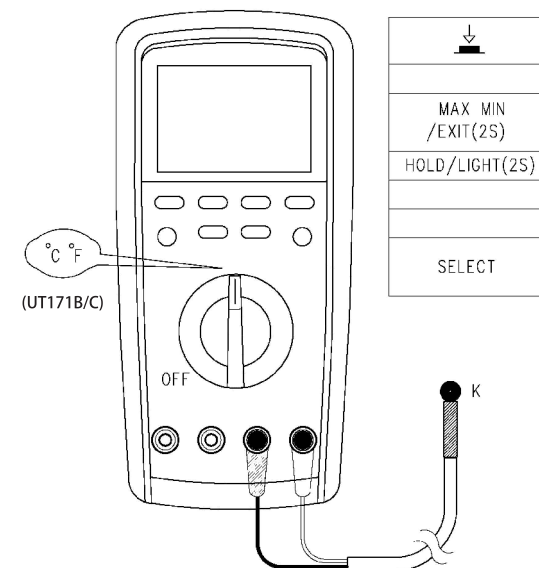

Figure 9
7. Measuring temperature (see Figure 9)